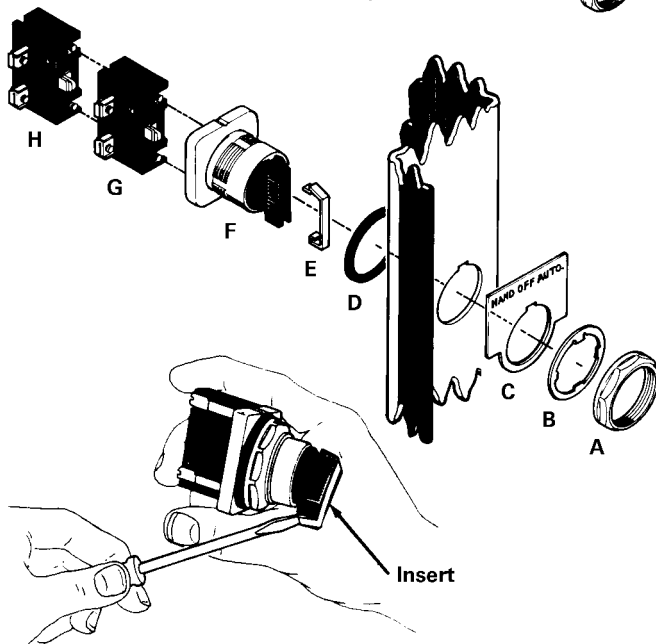

Figure 1
1. Remove lock nut **A**, index locking ring **B**, and legend plate **C** from the selector switch base **F**. If a different color lever insert is required, pry out white insert with a small screwdriver as shown in Figure 1 detail. Snap in new color insert.